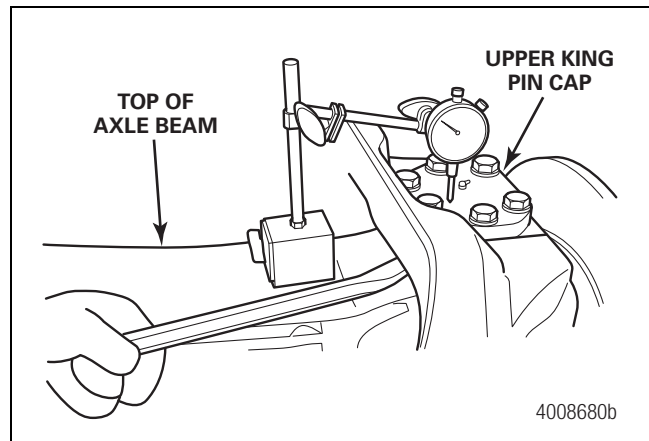

Figure 8.15
- Install a dial indicator to the axle housing so that the tip is located on the upper king pin cap. Figure 8.15.